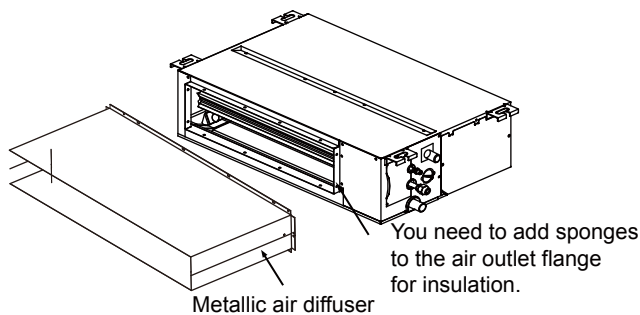

Figure 2.5
3. When the air outlet panel is connected to the air outlet flange of the unit body via the metallic air diffuser, make sure that the sheet metal contact surface is properly sealed and insulated using sponge, as shown in Figure 2.5.